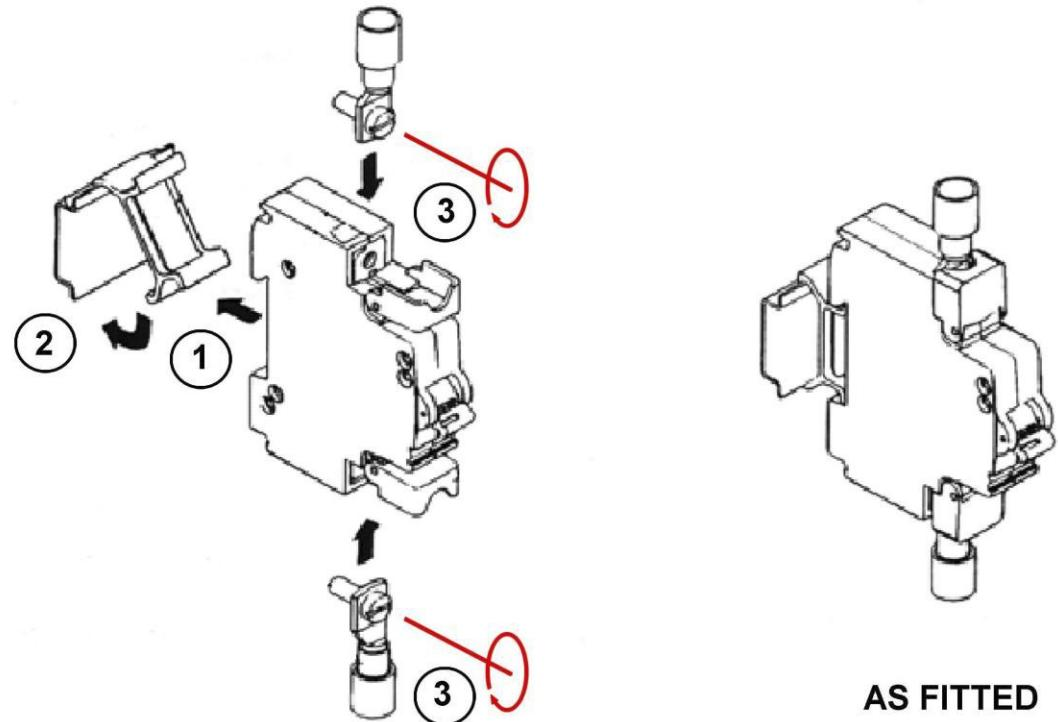

FIGURE 7 -CIRCUIT BREAKER INSTALLATION
4. Install the "new" Circuit Breaker according to the instructions provided in the following figure 7